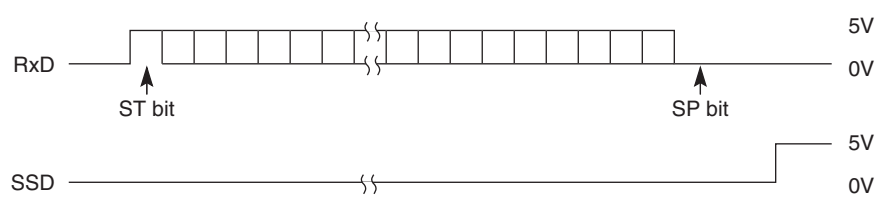

Figure B-3-4
- Yes Is the RxD of Q3 as specified in Figure B-3-4?
- ② In receiving by serial interface, printing data is omitted or printing operation is not performed.
• Are RxD and SSD of Q3 as specified in Figure B-3-4?